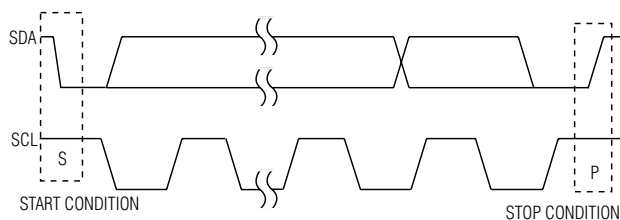

Figure 3. Start and Stop Conditions
Both SCL and SDA remain high when the interface is not busy. A master signals the beginning of a transmission with a START (S) condition by transitioning SDA from high to low while SCL is high. When the master has finished communicating with the slave, it issues a STOP (P) condition by transitioning the SDA from low to high while SCL is high. The bus is then free for another transmission (Figure 3).